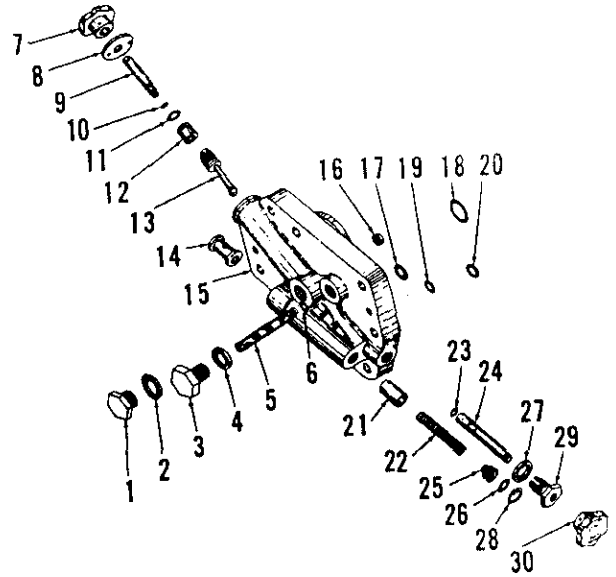

Fig. 142—Control valve assembly and draft plunger linkage after removal from hydraulic lift housing.
to assist in pulling tube. Disconnect valve operating link from draft control shaft crankshaft. Disconnect draft link plunger return spring and on models so equipped, disconnect draft control spool safety chain. Remove the retaining cap screws and pull control valve, cylinder head and cylinder assembly from housing. See Fig. 142. Remove the valve operating link, radius arm and the draft link plunger assembly from control valve. Remove the two small cap screws and separate cylinder head from control valve which will release spacer (9—Fig. 143) and spring (10). Remove spring seat and lowering spool (11) from control valve flange (body). Remove plunger (19) and plunger spring (17). Remove the internal snap ring (25) and draft spool (24).